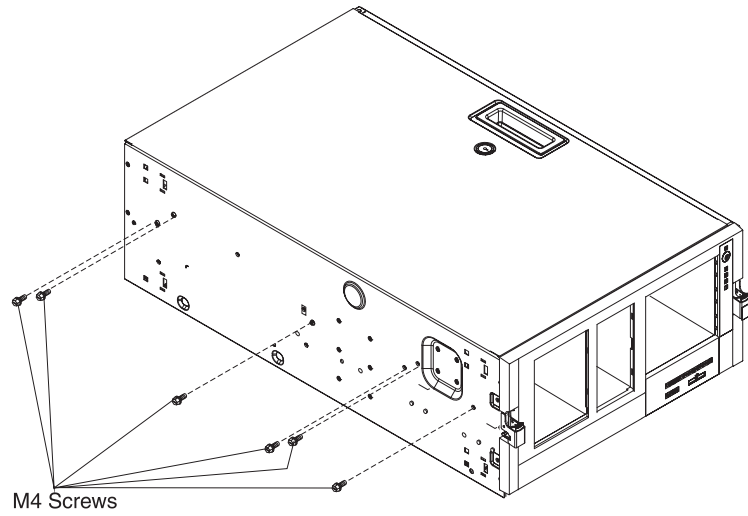

Figure 8. Removing the six M4 screws
7. Remove the six M4 screws from the server as shown in Figure 8 on page 10. Save these screws for rail installation.